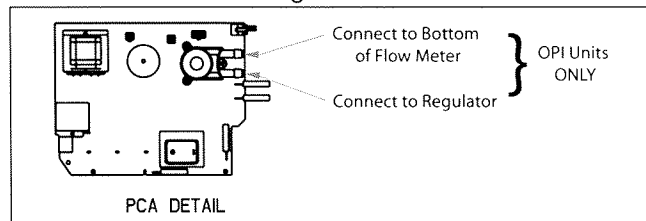

FIGURE 8-22: PRESSURE TUBING CONNECTIONS
2. Connect the Other ends of the Pressure Tubing to the Pressure Regulator and bottom connection on the Flow Meter. Refer to Refer to Figure 8-22..